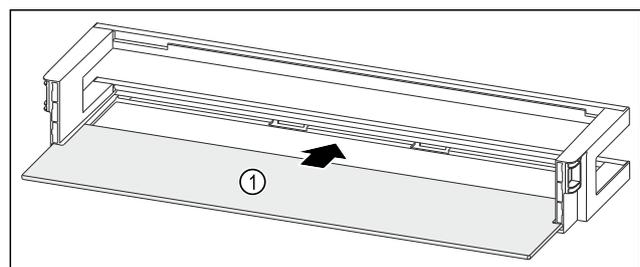

Fig. 141 Door rack with shelf
- ▶ Push the shelf Fig. 141 (1) into the side recesses.